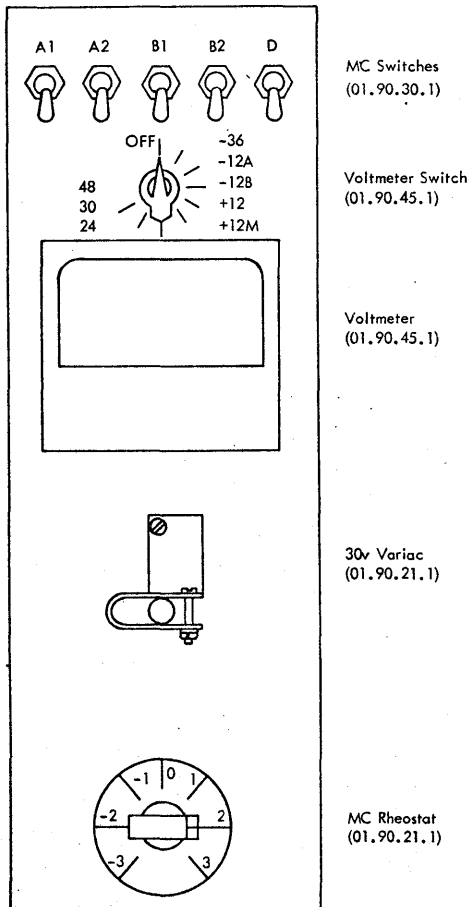

Figure 6-22. Box 4 Marginal Power Supply Controls
The gate mounted in box four contains the five marginal check (MC) toggle switches on 01.90.30.01, the DC meter selector switch on 01.90.45.1, the DC meter, the +30v variac on 01.90.21.1 and the 3v MC rheostat on 01.90.21.1. See Figure 6-22.